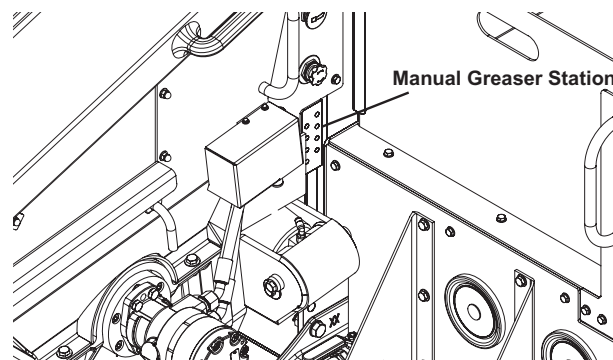

Figure 7
- Grease the rock valve lubrication points before the pour begins. Once started, grease them every couple of hours. The rock valve has nine grease zerks. Eight zerks are on the manual greaser station accessible from the passenger side of the unit (Figure 7). One zerk (the outside end of the rock valve slewing cylinder) is accessible from the drivers side of the unit.